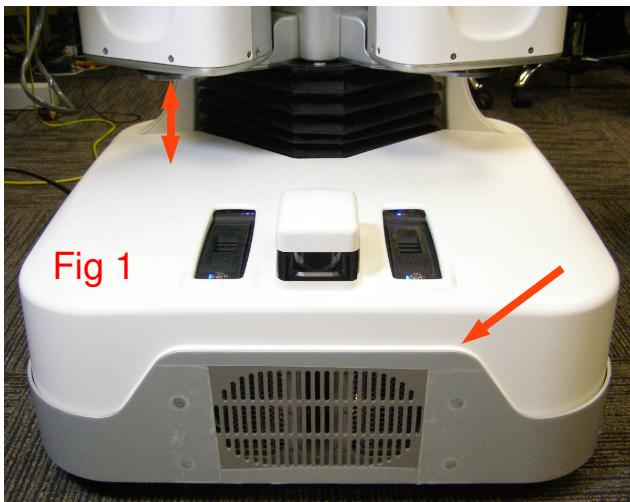

Fig 1
- 1. Raise the Spine at least 5cm. (Fig 1)